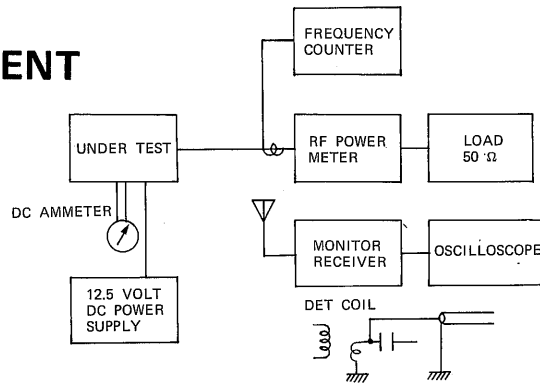

FIGURE 4
1. Connect the equipment as shown in Figure 4.
| 7 | CH: A position Press the P.T.T. SW | Couple the frequency counter as shown in Figure 4 | Supply voltage 12.5 volts | | Check the trans- mitting frequency |